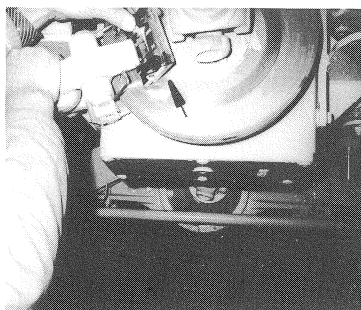

Fig. 57
- (3) Draw out brake pad to the top (Fig. 57/arrow).